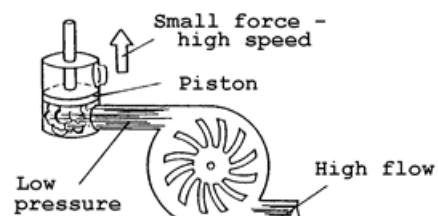

FIG 5.
- Conversely, you can have a high flow and a low pressure. In Fig 5, a compressor is supplying a large volume of air at a very low pressure to a cylinder. You could stop this piston with one finger, but if the load is very small it will travel at an extremely high speed.